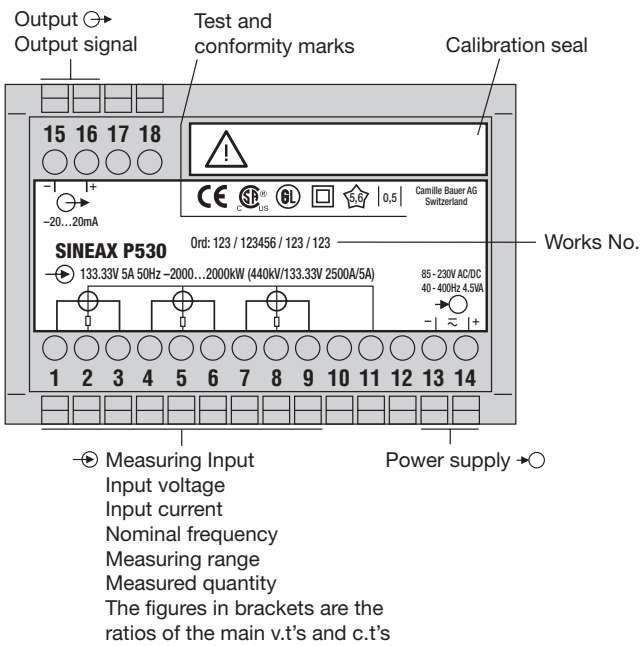

Fig. 5. Declaration to type label.
... the data required to carry out the prescribed measurement must correspond to those marked on the nameplate of the SINEAX P530/Q531 (⊖→ measuring input, ⊖→ measuring output and →⊙ power supply, see Fig. 5)!
- Remove the calibration seal (small sticker, Fig. 5).